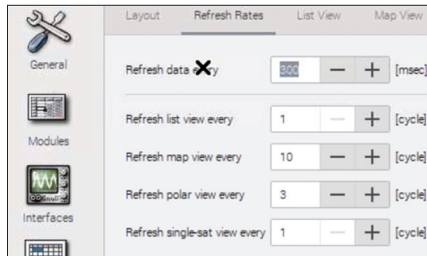

Figure 17.16: Set the refresh rates.
**Refresh Rates** — This menu option enables the refresh rates to be set (Figure 17.16)